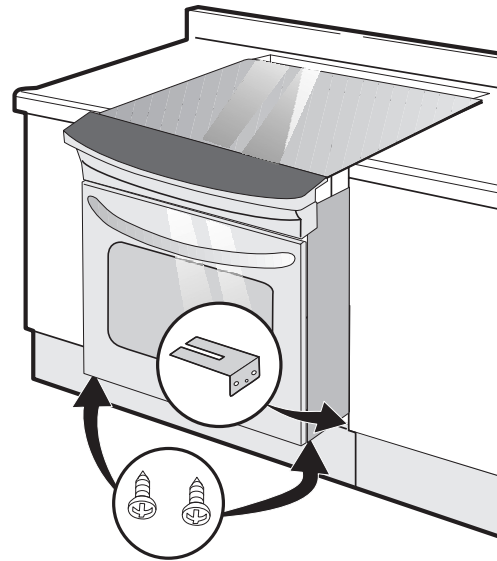

Figure 6
10. Anti-slide brackets Installation (Figure 6):